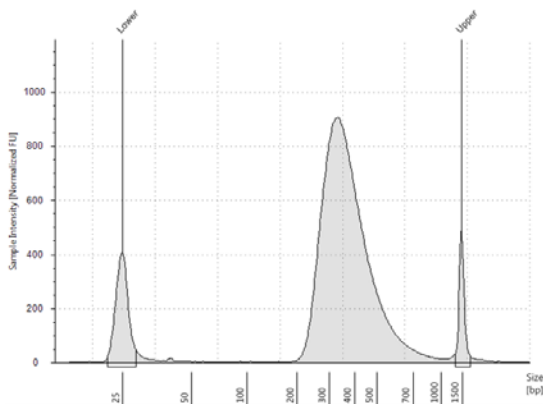
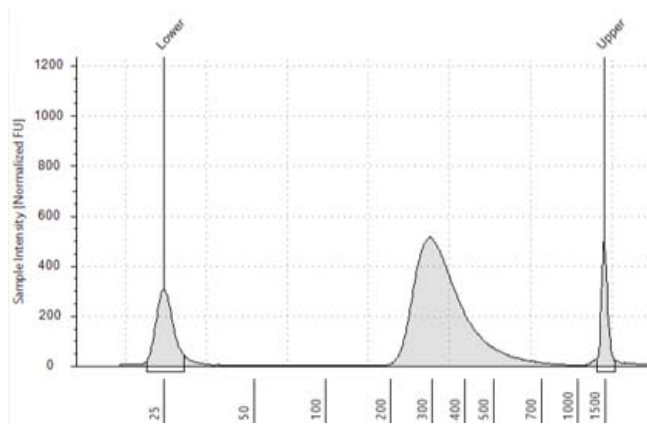
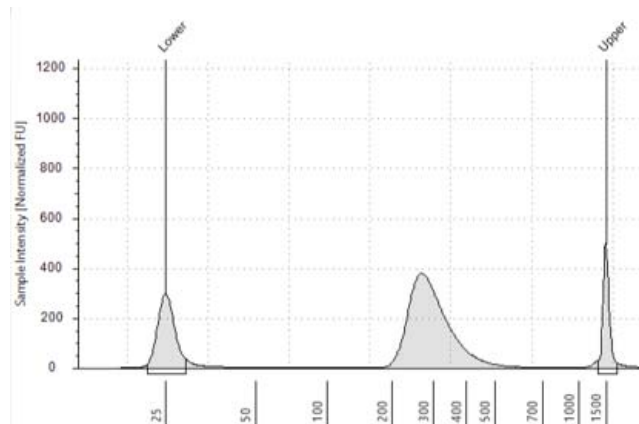

Figure 5 Post-capture library prepared from a high-quality gDNA sample analyzed using a High Sensitivity D1000 ScreenTape assay.
Figure 6 Post-capture library prepared from a typical FFPE gDNA sample analyzed using a High Sensitivity D1000 ScreenTape assay.
Figure 7 Post-capture library prepared from a low-quality FFPE gDNA sample analyzed using a High Sensitivity D1000 ScreenTape assay.
FFPE DNA	200 to 400 bp (see Figure 6 and Figure 7 for sample electropherograms)
- 3 Verify that the electropherogram shows the expected DNA fragment size peak position (see Table 39 for guidelines). Sample TapeStation system electropherograms are shown for libraries prepared from sheared DNA designed for 2×100 bp reads in Figure 5 (high-quality input DNA), Figure 6 (medium-quality FFPE input DNA), and Figure 7 (low-quality FFPE input DNA).